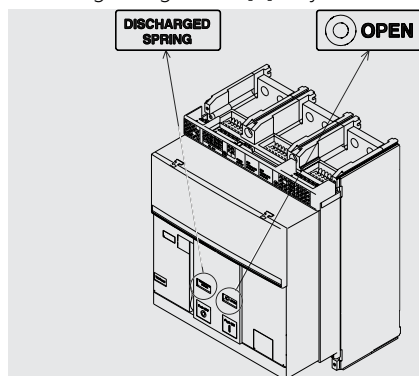

Figure 42
1. Check that the circuit-breaker is open (open / closed indicator "O - OPEN"), and check that the springs are discharged (spring signalling device "white - DISCHARGED SPRING") as indicated in Figure 42.